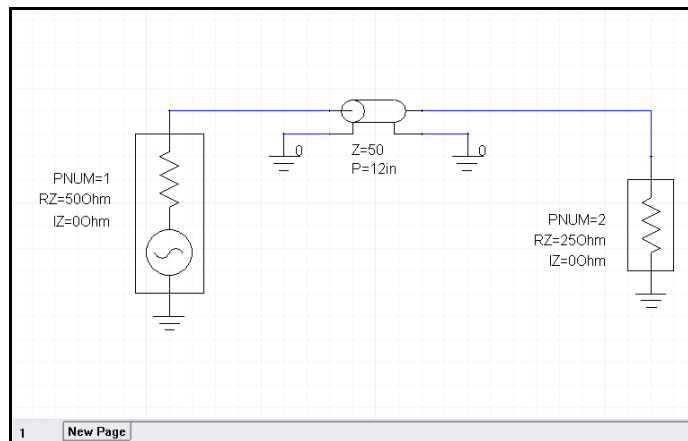

Figure 16. Schematic on page 48 of the class notes.
2. On page 48 of the Ch. 3 class notes is an example of a 1 foot coaxial cable. This has been drawn in Fig. 16 using a cable which can be found in **Components** under **Coaxial Cable** by selecting **COAXK_REF: Coaxial Cable, K, w / Ref. Nodes**.